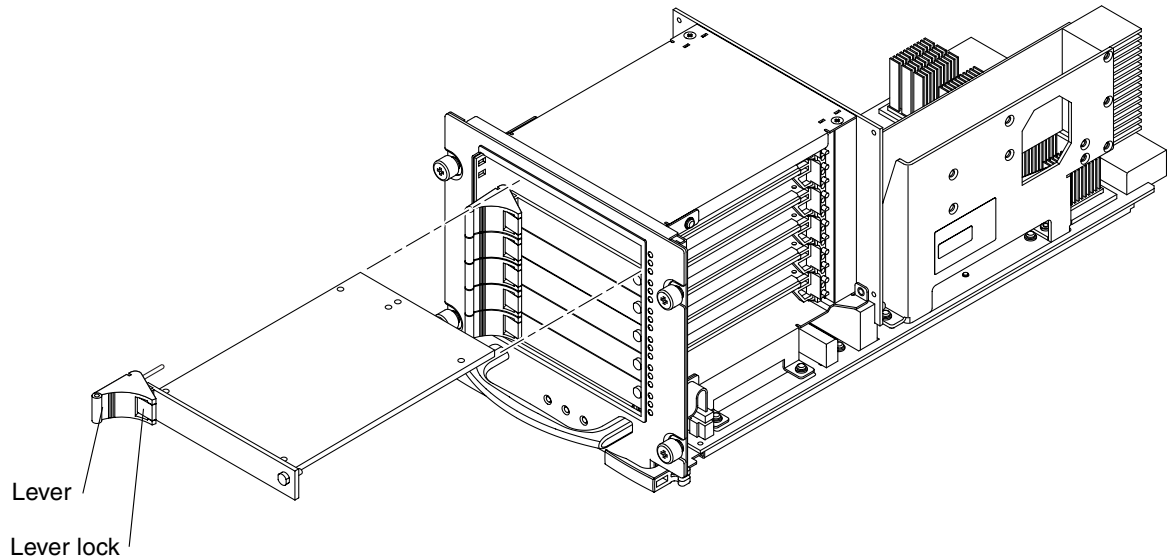

FIGURE 10-6 Removing a CompactPCI Card
6. Press the red lever lock in the lever sideways to unlock the lever (FIGURE 10-6).
3. **Press the red lever lock in the lever sideways to unlock the lever to the open position (FIGURE 10-6).**